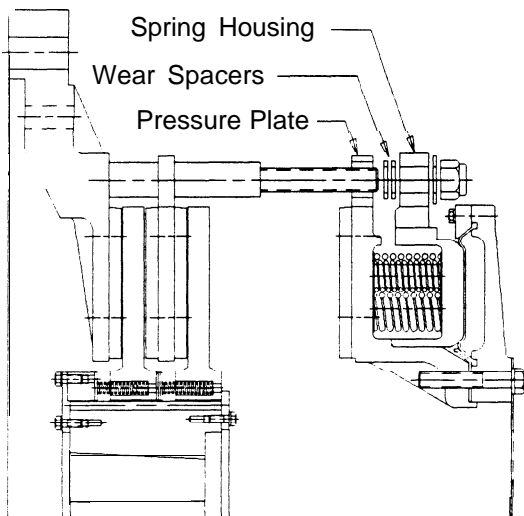

Fig. 6
2.4.18 Noting the position of the air inlets, hoist the end plate, spring housing and pressure plate assembly into position and slide it over the clamp tubes, placing two wear spacers (25) onto each stud between the pressure plate and spring housing. See Figure 6. The wear spacers will not pass through the holes in the pressure plate.